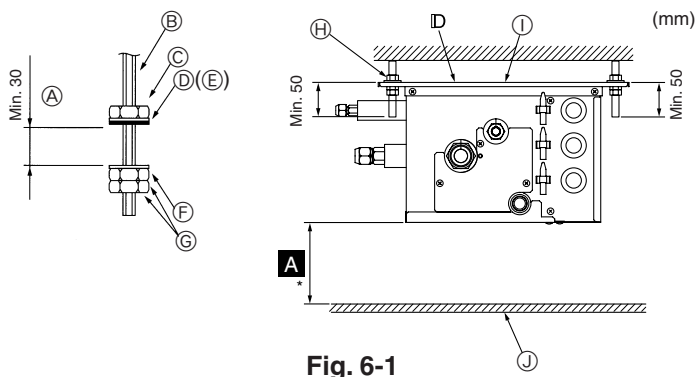

Fig. 6-1
- (2) Fit the washers and nuts (①, ②, procure locally) to the suspension bolts. (Fig. 6-1)
- (3) Hang the unit on the suspension bolts.
- (4) Fully tighten the nuts (check ceiling height).
- (5) Use a level to adjust the branch box to the horizontal.